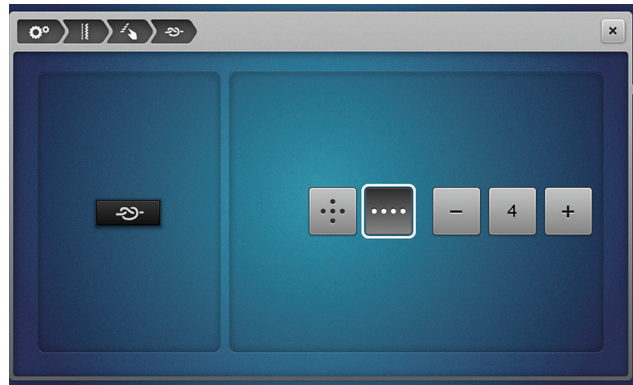

Fig. 11
- **Programmable securing:** Some securing options could create more bulk than desired, particularly when many seams are intersecting. Program your securing stitch (with either the Securing button, Back-kick on the Foot Control, or Thread Cutter) to sew with running stitches for securing with the least amount of bulk (Fig. 11).